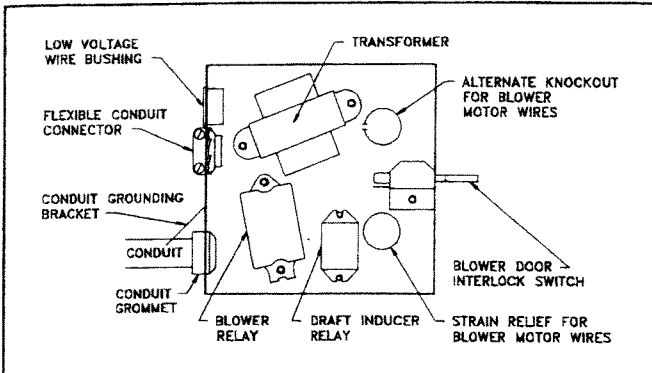
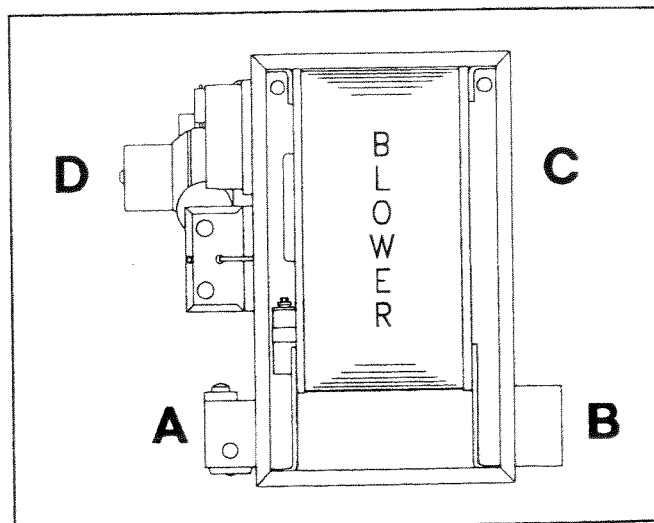
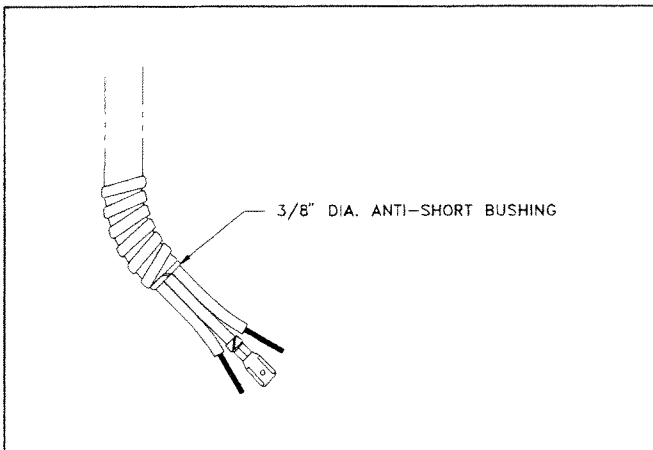
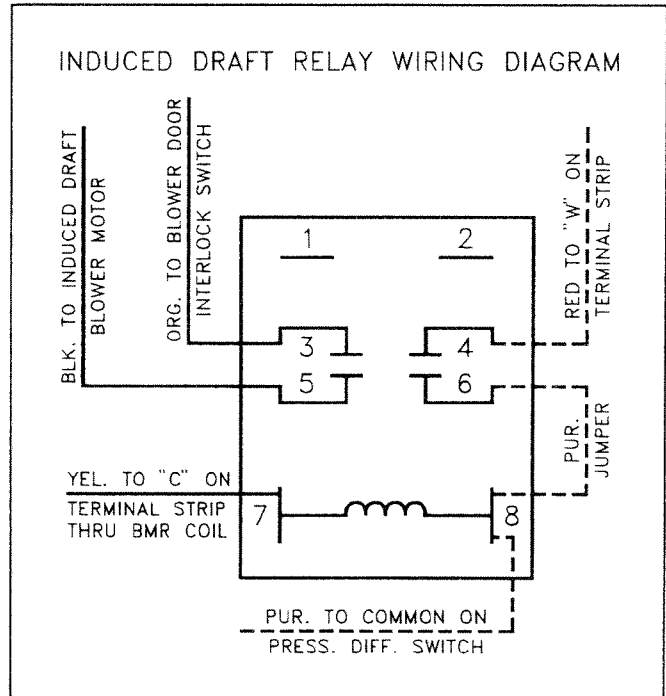

Figure 19. Junction Box Components.
Figure 21. Controls in As-Shipped Position.
Figure 23. Anti-short Bushing.
Figure 24. Induced Draft Relay Wiring.
You may move controls to position "B" and "C" shown in Figure 21. If you decide to move controls, first move gas, then electrical controls. Starting position for controls is front of furnace; ending position is rear of furnace.
- a. **Line voltage wiring:** See Figure 19 to identify junction box components. Remove blower motor red or blue wire from spliced fan/limit control brown wire. Remove blower motor black wire from blower relay, terminal "N.O.". Remove blower motor white wire from spliced transformer primary, white wire. Remove fan/limit control, black wire from blower relay, terminal "N.C.". Remove 3/4"-strain relief bushing from back of junction box.
17. Remove junction box alternate knockout in back of junction box. See Figure 19 for location of alternate knockout.
18. At location "B" and "C", Figure 21, install 7/8"-insert bushing in furnace casing. Install junction box with blower door interlock switch facing blower end of furnace. See Figure 19 for interlock switch location.
21. Make sure conduit grounding bracket is touching conduit. See Figure 19 for location of grounding bracket.
1. Installing draft inducer when you leave gas and electrical controls in as-shipped position. As-shipped controls are in position "A" and draft inducer is in position "D", shown in Figure 21.
3. Remove junction box cover. Inspect end of flexible conduit from draft inducer to be sure that orange plastic anti-short bushing is still in conduit. See Figure 23. Locate flexible connector, shown in Figure 19.
Locate draft inducer relay shown in Figure 19. Using Figure 24 and the wiring diagram in the back of this manual, attach black wire from flexible conduit to 115-volt common power supply. Attach green wire to green grounding pigtail junction box.
3. Remove junction box cover. Inspect flexible conduit end from draft inducer to be sure that orange plastic anti-short bushing is in conduit. See Figure 23. Locate flexible conduit connector shown in Figure 19.
5. See Figure 19 for draft inducer relay location. Follow Figure 24 and furnace wiring diagram located in the back of this manual. Attach black wire from flexible conduit to terminal #5 on draft inducer relay. Attach white wire from flexible conduit to 115-volt common power supply. Attach green wire to green junction box grounding pigtail.